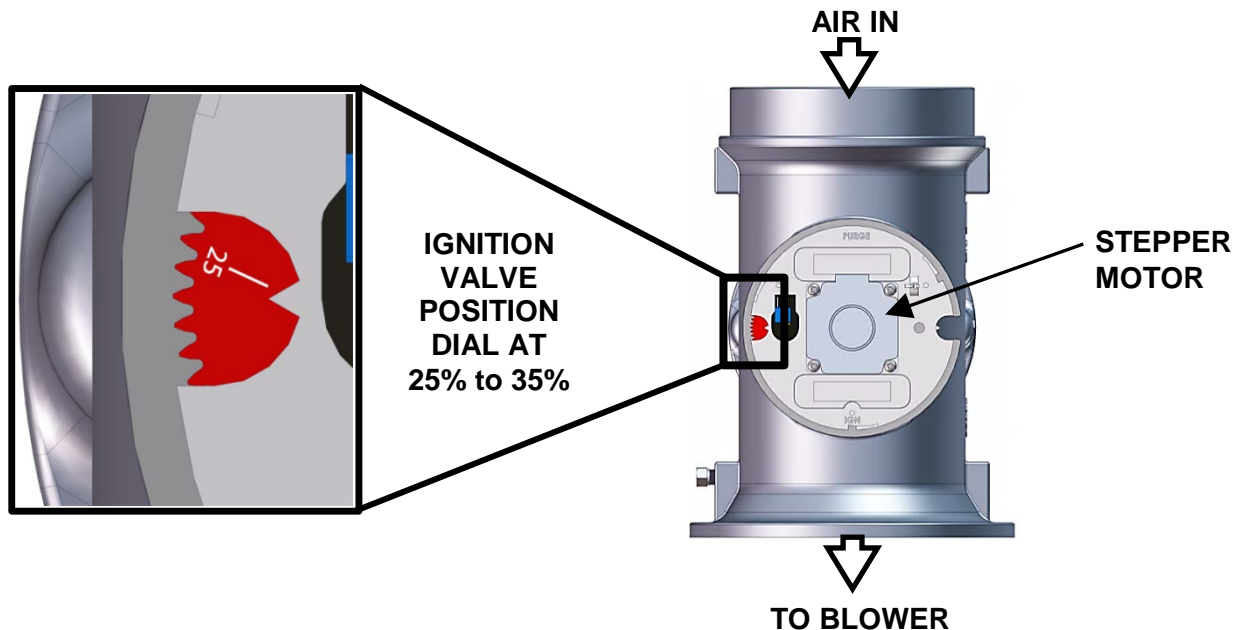

Figure 3-6. Air/Fuel Valve in Ignition Position
- (a) The Air/Fuel Valve rotates to the low-fire ignition position and closes the **Ignition** switch. The dial on the Air/Fuel Valve (Figure 3-6) will read between **25** and **35** to indicate that the valve is in the low-fire position.